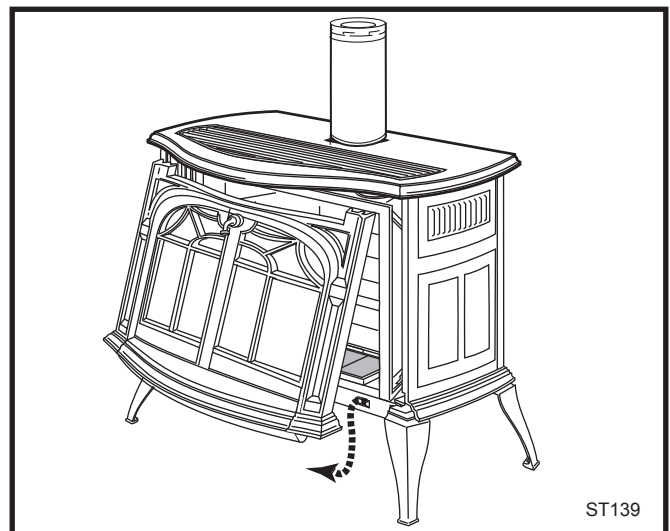

Fig. 64 Remove the Stove Front.
2. Lift the Stove Front up and then swing the bottom out to disengage it from the heater shell. (Fig. 64)